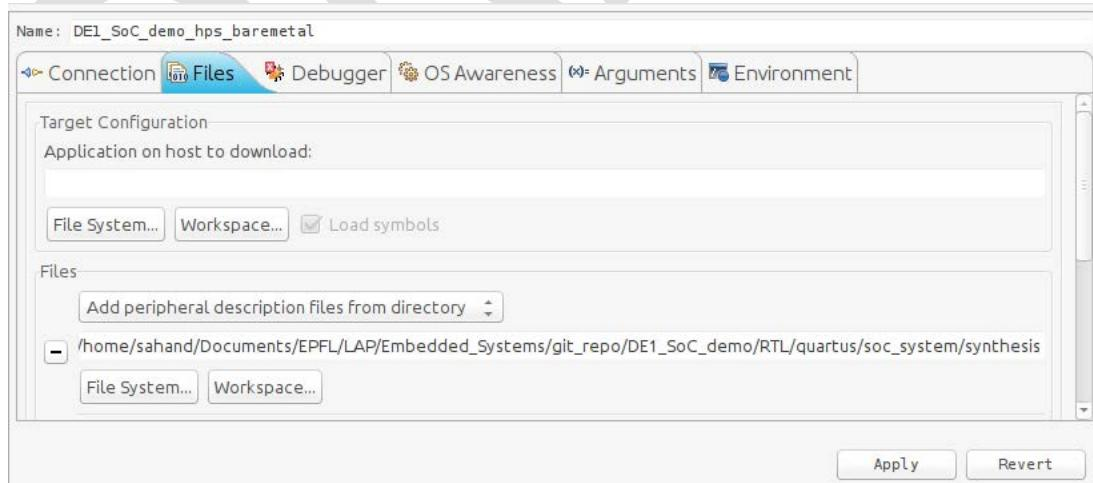

Figure 8-30. Debug Configuration "Files" Tab
- In 8.3.3.2, we configured our HPS to use some FPGA peripherals. We can instruct the debugger about this so it can show more detailed information when debugging. To do this, set the combobox to “Add peripheral description files from directory” and set it to the “DE1\_SoC\_demo/RTL/quartus/soc\_system/synthesis” directory, as shown in Figure 8-30. This directory contains a file called “soc\_system\_hps\_0\_hps.svd” which has information on all of the HPS’ peripherals which are in the FPGA fabric.